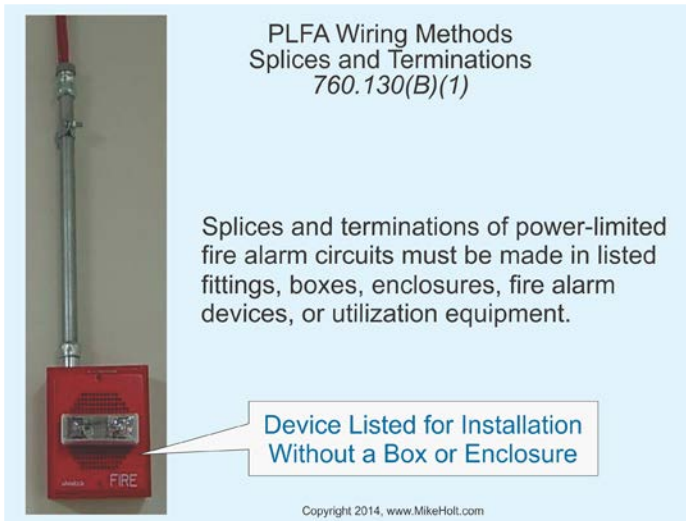

Figure 760-17
**(B) PLFA Wiring Methods and Materials.** Power-limited fire alarm conductors and cables described in 760.179 must be installed as detailed in (1), (2), or (3) of this section and 300.7.
**(1) Exposed or Fished in Concealed Spaces.** Cable splices or terminations must be made in listed fittings, boxes, enclosures, fire alarm devices, or utilization equipment. Figure 760-17